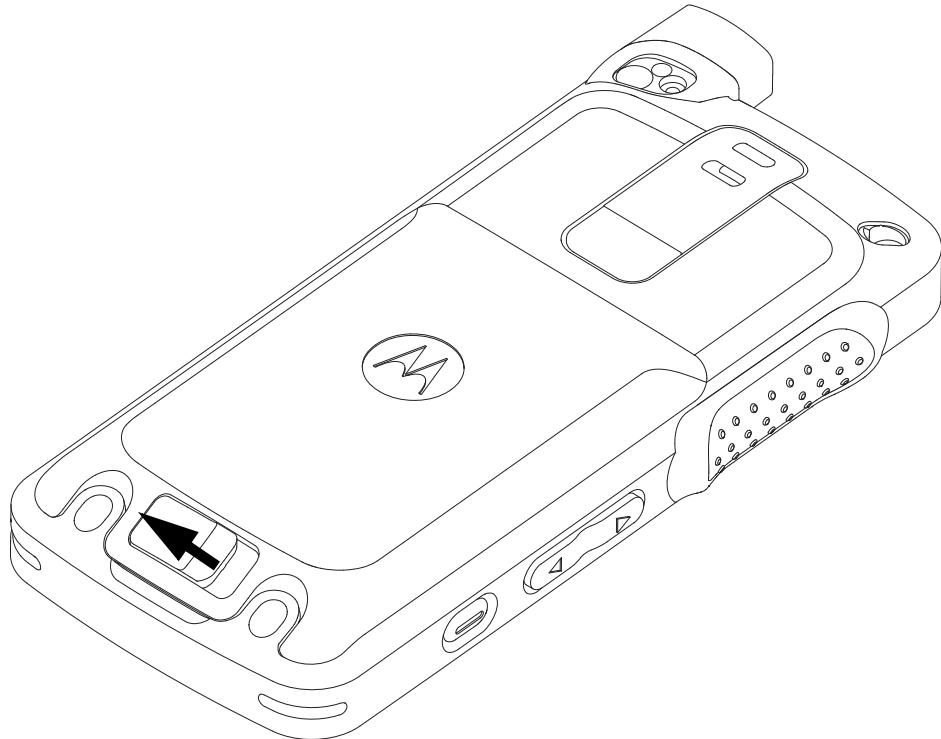

Figure 5-32. Latching battery door
6. Fasten the battery door latch as shown in Figure 5-32.